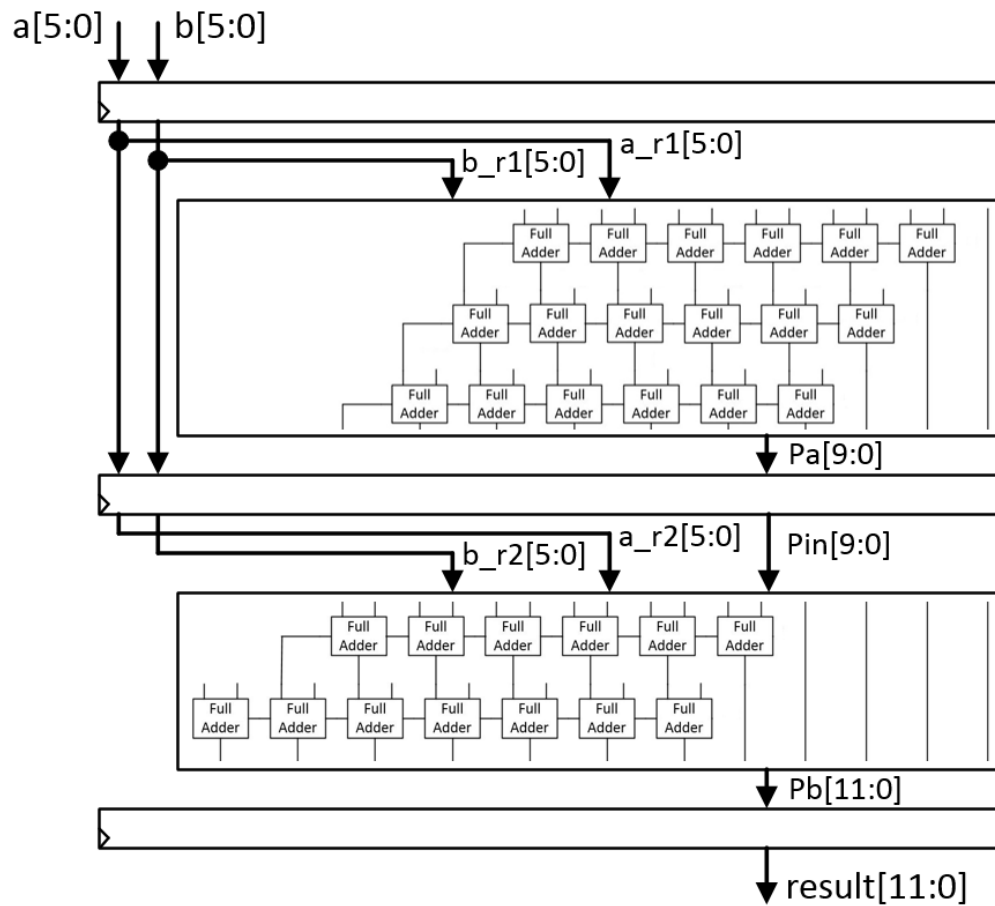

Figure 5. The block diagram of the pipelined multiplier
Now we should pipeline the multiplier design. First, examine the block diagram of the multiplier shown in Figure 3. Note that the critical path is from the inputs to the full adder (FA) block at the top right (b_0a_1 and b_1a_0) to the output from the FA block at the bottom left (P_{11}), and is 11 FA delays. So we need to partition the adder somewhere such that the critical path in the two partitions stays roughly the same. From Figure 3, it can be seen that inserting a pipeline register between the 3rd and 4th adder blocks, we get a critical path of 8 FA delays for both partitions. The pipelined design should look like (and will use the same signals) as shown in Figure 5.
Close the SIMULATION window. Remove *array_mult_6Bit.v* from the project (right click on it and then select “Remove File from project”). Then add *multA.v* and *multB.v* to the design. Open *multA.v* and check that it only uses the first three partial products and that the 10-bit *P* is assigned as the sum of *PP3* and *lsum2* (plus some lower terms). Next open *multB.v*. It uses the original *a* and *b* inputs as well as the 10-bit product (*Pin*) generated in *multA.v* and produces a 12-bit result (*P*). Verify that the two new modules match those shown in Figure 5.